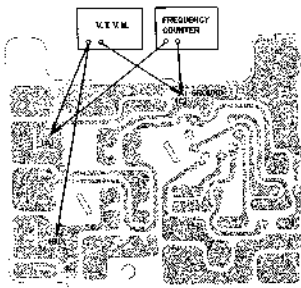

Fig. 18
3. RECORDING BIAS FREQUENCY ADJUSTMENT (See Fig. 18)
- 2) Connect a Frequency counter to points (A) and (C) in Fig. 18 of the Oscillator P.C. Board (LE-5021) and read the frequency indication.
- 2) Connect a V.T.V.M. to points (B) and (C) in Fig. 18 of the oscillator P.C. Board (LE-5021) and read the V.T.V.M. indication.